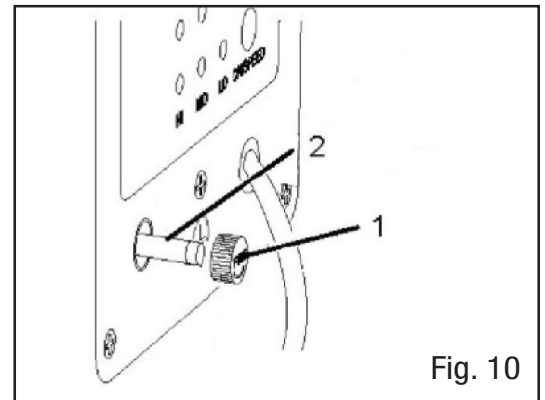

Fig. 10
CHECKING AND REPLACING THE FUSE (FIG. 10)
1. Turn the fuse cap (Fig. 10 - 1) counterclockwise to loosen and pull the fuse (Fig. 10 - 2) out of the control panel.